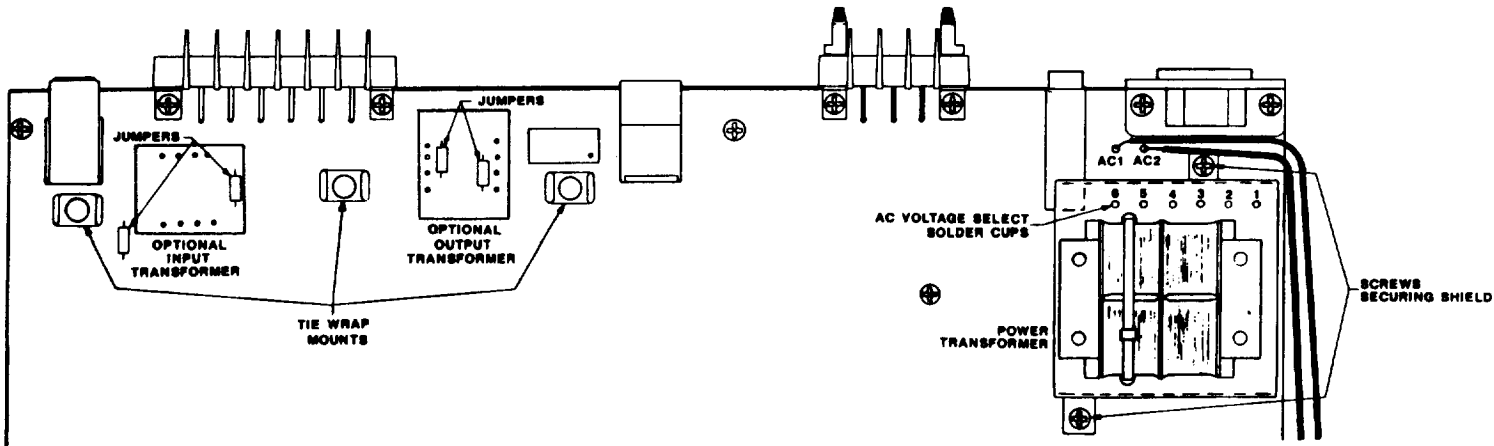

Figure 1. Location of Pertinent Components on Circuit Board.
3. Locate and remove the two screws that secure the transformer shield and remove shield. Locate the six voltage selection solder cups above the power transformer. See Figure 1 for location.
3. Locate the transformer mounting areas near the top of the circuit board. See Figure 1 for exact locations.
4. Cut two jumpers for each transformer installed. These jumpers are indicated in Figure 1.